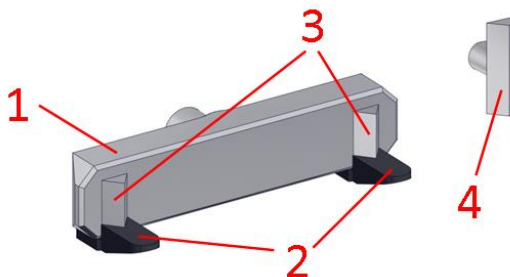
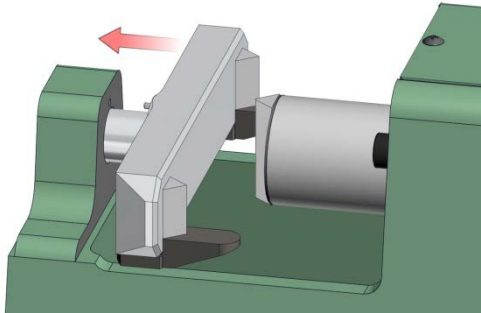

Figure 5.4.1
Figure 5.4.2
1. Install the two Transverse Strength Accessory components by first, aligning each of the pins located on the back side of the components with the holes located on the Base and Hydraulic Piston of the Universal Strength Machine. Then, gently slide the Test Support Clamp (Item 1, Figure 5.4.1) and Pressure Wedge (Item 4, Figure 5.4.1) onto the Base and Hydraulic Piston, respectively. See Figure 5.4.2 for installation procedure.
2. Gently place a prepared transverse sand specimen onto the two Specimen Support Pieces (Item 2, Figure 5.4.1) located at the bottom of the Test Piece Support Clamp. Position the sand specimen so that it is centered on the Support Clamp and makes contact with both Backing Wedges (Item 3, Figure 5.4.1); however, ensure that the sand specimen is not yet under a load from these components.